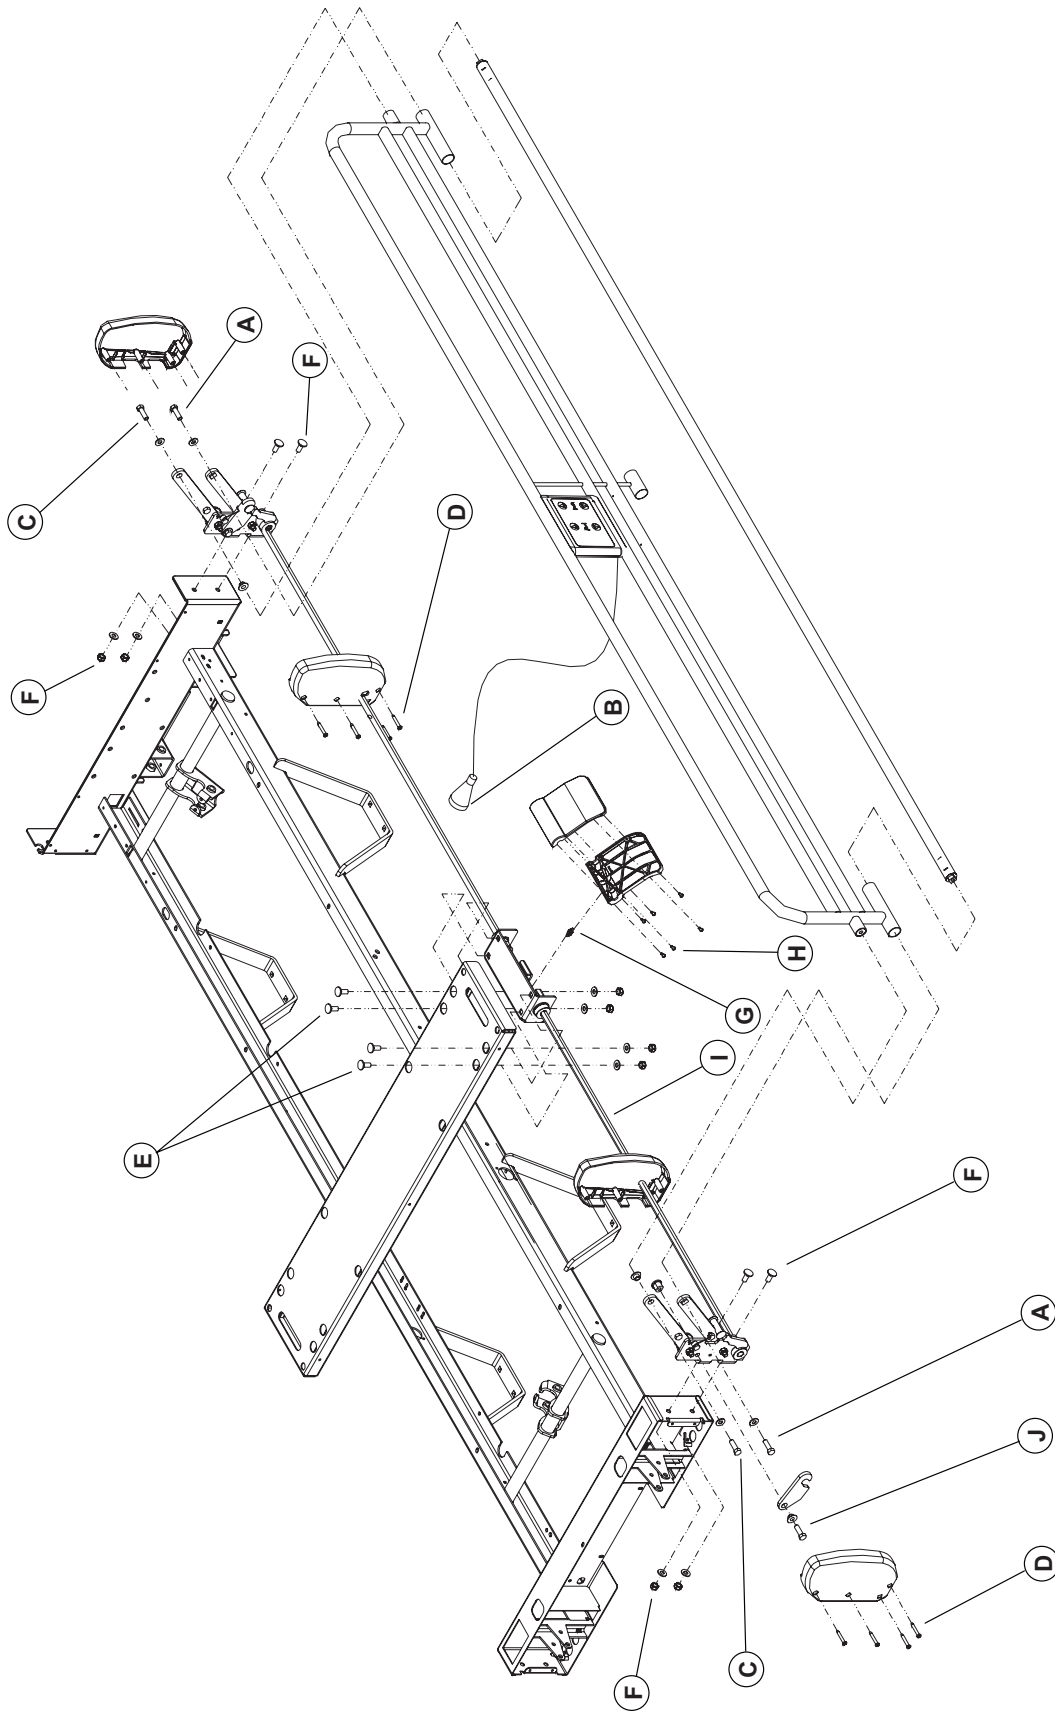

Figure 4.1 B
**Note:** Unless otherwise indicated, refer to Figure 4.1 A on pg. 30 for the following replacement procedure.
**Note:** Unless otherwise indicated, refer to Figure 4.1 B on pg. 35 for the following replacement procedure.
**Note:** Unless otherwise indicated, refer to Figure 4.1 B on pg. 34 for the following replacement procedure.